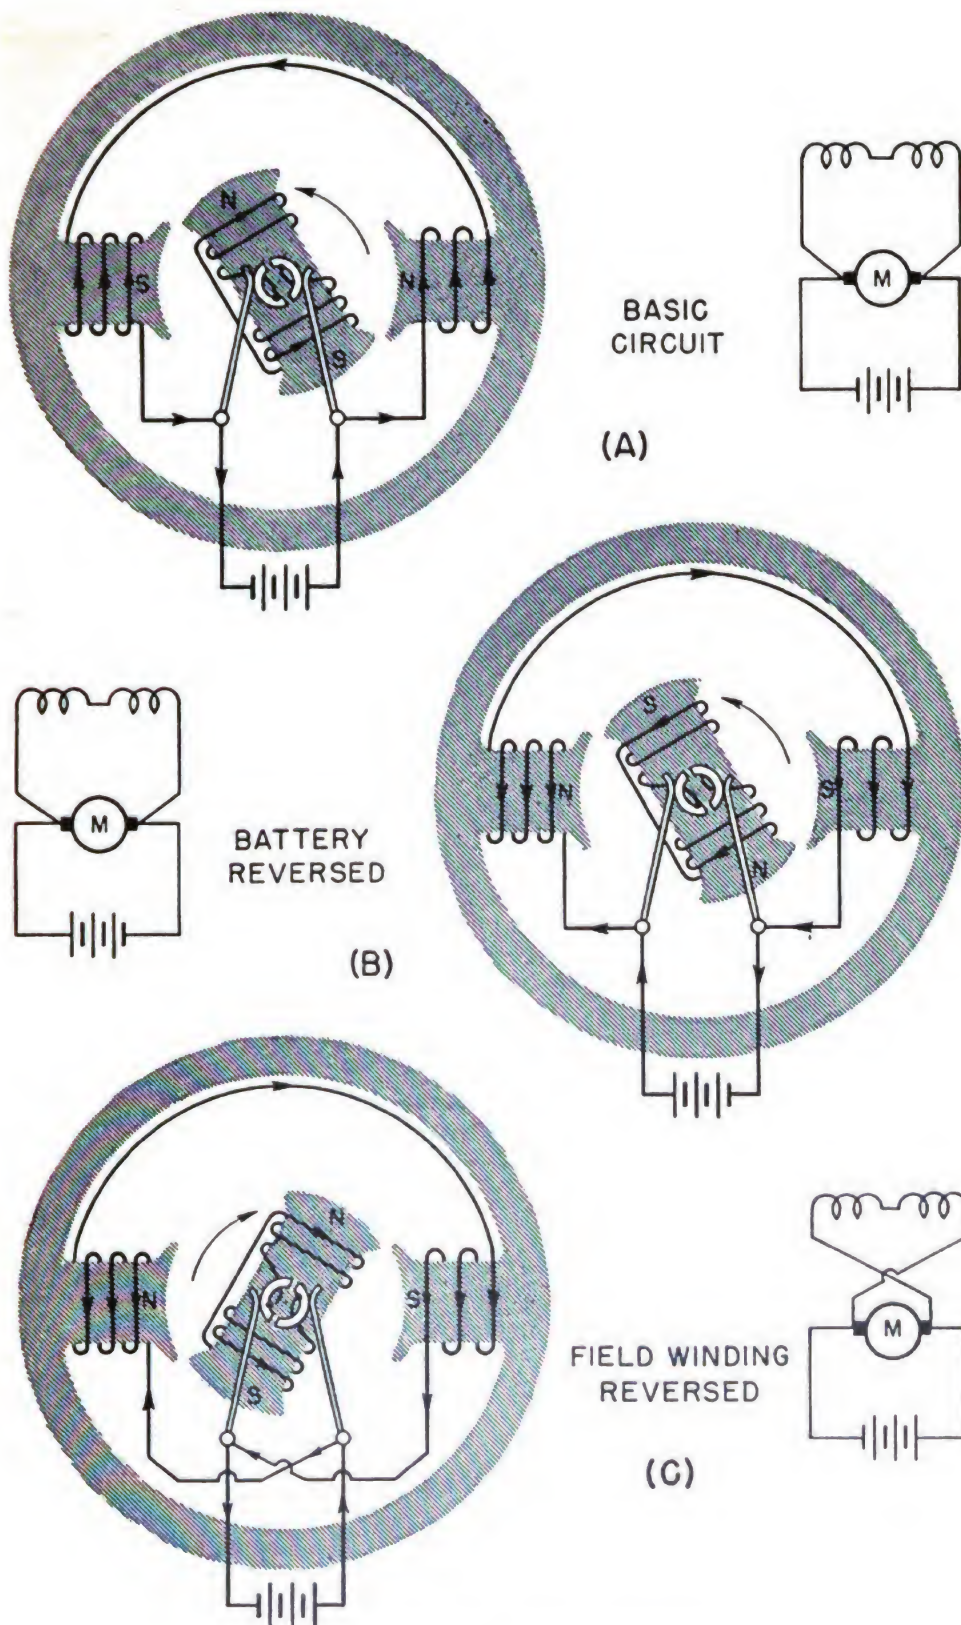

Figure 143.—Direction of rotation.
It is often necessary to reverse the direction of a motor. You might think you could do this by reversing the battery connection. But such a reversal has no effect whatever on the direction of rotation. In (A) and (B) of figure 143, you see the magnetic effect that results from reversal of the battery connections. The magnetic polarity of both field and armature is reversed and rotation remains the same. How can you reverse the rotation? There are two ways.
The second method is the easier. Simply reverse the field leads at their connection points on the brushes. You see the magnetic conditions that result from this change in (C) of figure 143.